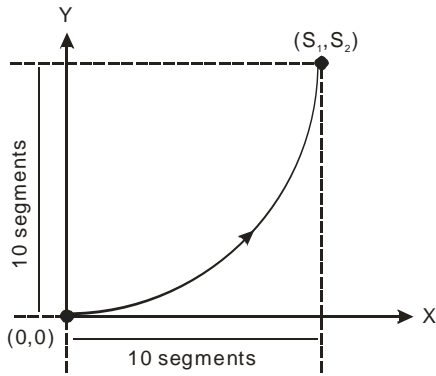
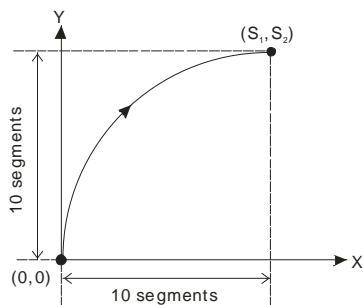
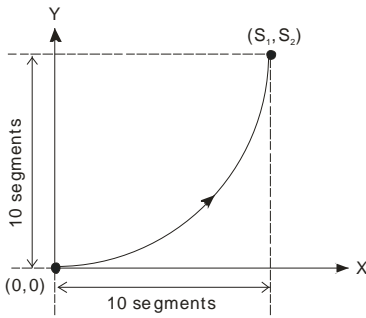

Figure 3
Figure 1
Figure 3
- The lower 16 bits of **S** (settings of direction and resolution): K0 refers to clockwise 10-segment (average resolution) output; K2 refers to clockwise 20-segment (higher resolution) output and a 90° arc can be drawn (see figure 1 and 2). K1 refers to counterclockwise 10-segment (average resolution) output; K3 refers to counterclockwise 20-segment (higher resolution) output and a 90° arc can be drawn (see figure 3 and 4).
- The lower 16 bits of S (settings of direction and resolution): K0 refers to clockwise 10-segment (average resolution) output; K2 refers to clockwise 20-segment (higher resolution) output and a 90° arc can be drawn (see figure 1 and 2). K1 refers to counterclockwise 10-segment (average resolution) output; K3 refers to counterclockwise 20-segment (higher resolution) output and a 90° arc can be drawn (see figure 3 and 4).